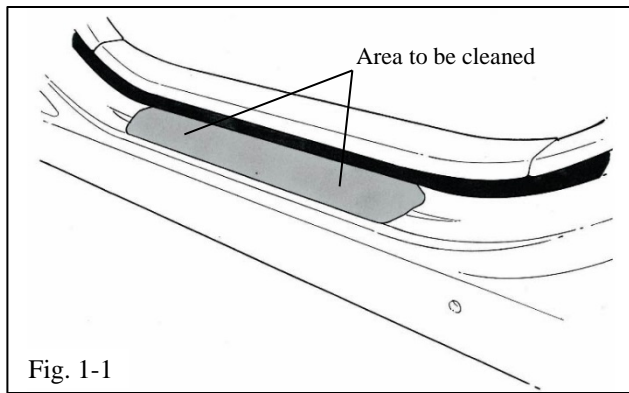

Fig. 1-1
- (c) Clean and degrease front door sill where protector is to be located with soap and water mixture (Fig.1-1).